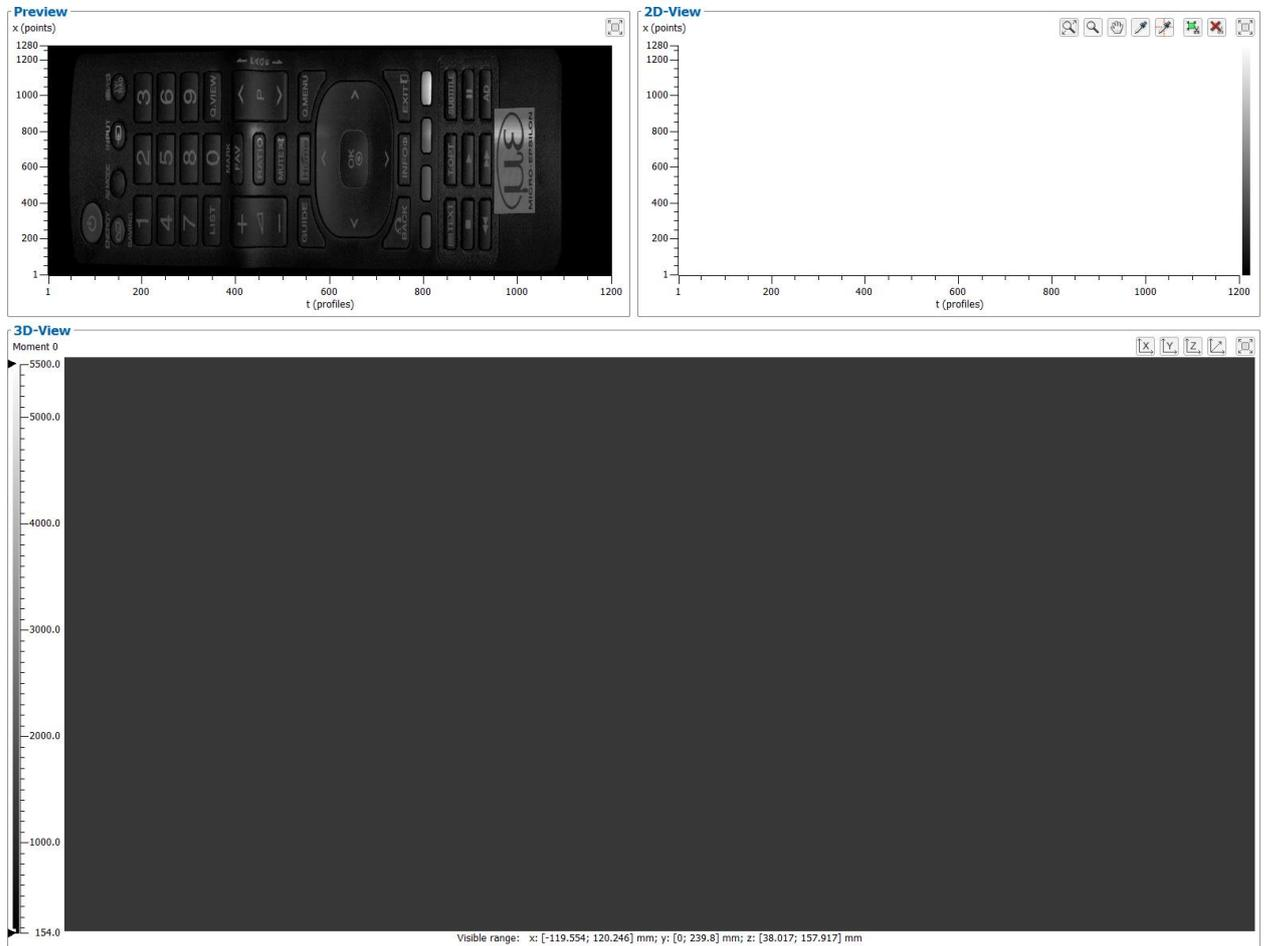

Fig. 3.42: 3D visualization – step 1
- ▶ In the entry field "Preview mode" select the option "continuous" to continuously update the preview window or select the option "trigger" and press the button "Trigger" to display a profile sequence in the preview window (see Fig. 3.42).
- The profiles are now read from the file and the preview window is updated continuously (see Fig. 3.42). Press the button "Stop" to stop the playback, if necessary.